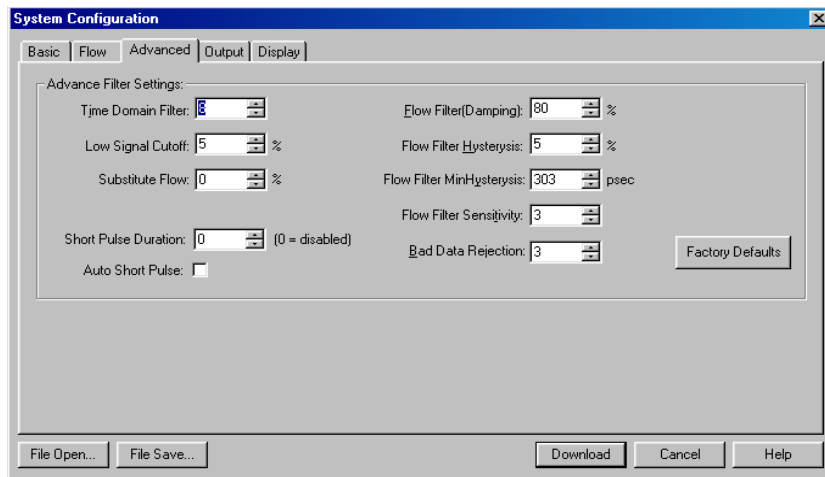

Figure 4.7
7. ADVANCED TAB—See Figure 4.7